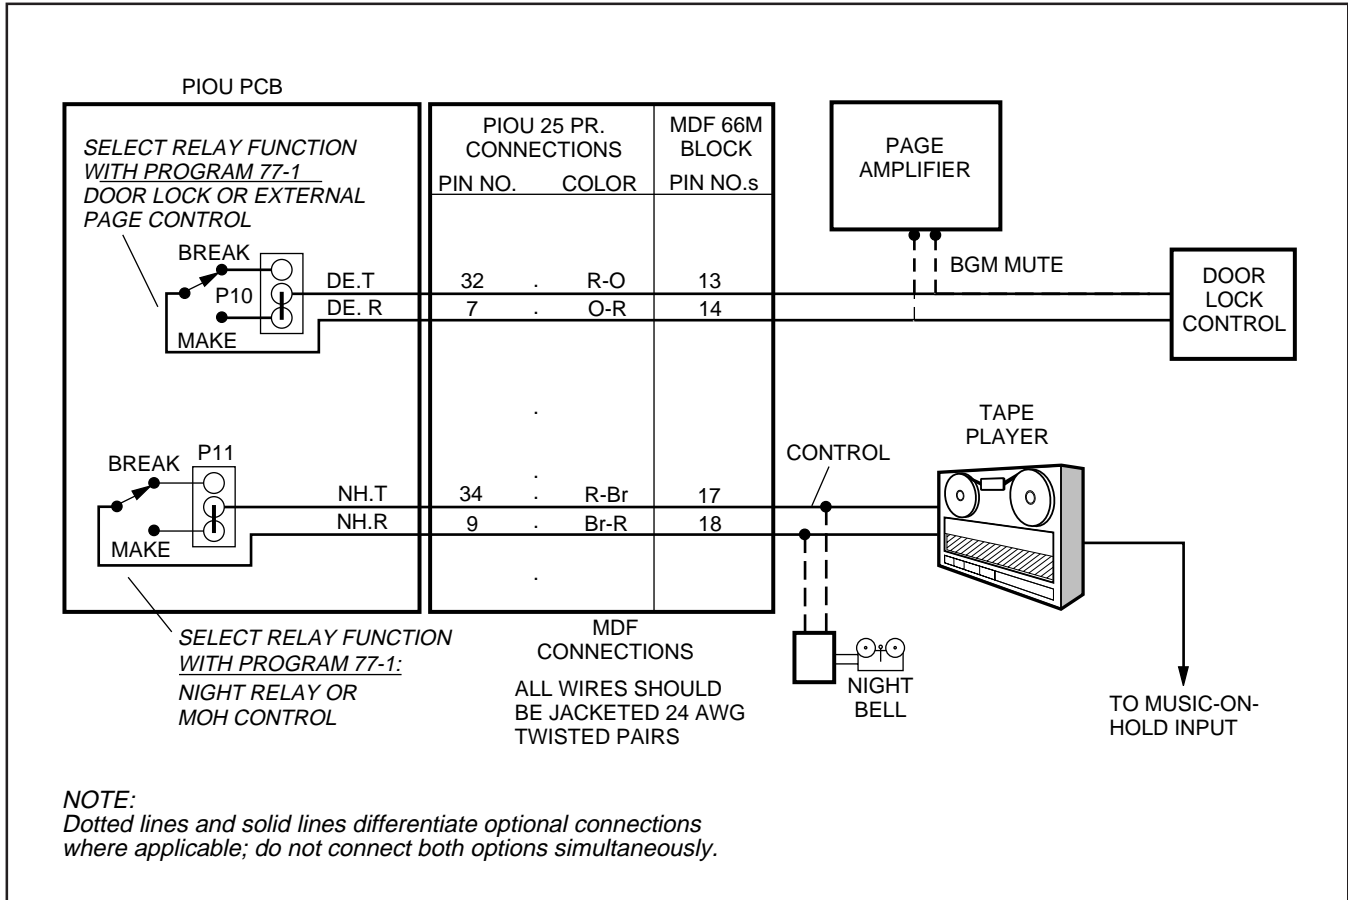

FIGURE 7-6
3.21 The Expansion Unit via the PIOU or PIOUS provides two additional relays that control peripheral options (see Figures 7-6, 7-7, 8-23, and 8-25).
figure the PIOU or PIOUS for the door lock control function in accordance with the following steps (refer to Figure 7-6 and 7-7):
3.31 The NHT/NHR relay may be programmed for either the night relay or the MOH relay function (refer to Figures 7-6 and 7-7). These functions can be provided in addition to the relay service provided by the Base Unit.
3.34 DK16 Night Transfer Relay Control. Configure the PIOU or PIOUS for the Night Transfer Relay function in accordance with the following steps (refer to Figures 7-6 and 7-7):
- 8) Refer to Figures 7-6 and 7-7 for wiring/interconnecting details. Connect the PIOU or PIOUS to the MDF as required for the night relay function.
Configure the PIOU or PIOUS for the MOH relay function in accordance with the following steps (refer to Figures 7-6 and 7-7):
- 3) Refer to Figures 7-6 and 7-7 for wiring/interconnecting details. Connect the PIOU or PIOUS to the MDF as required for the MOH relay function.